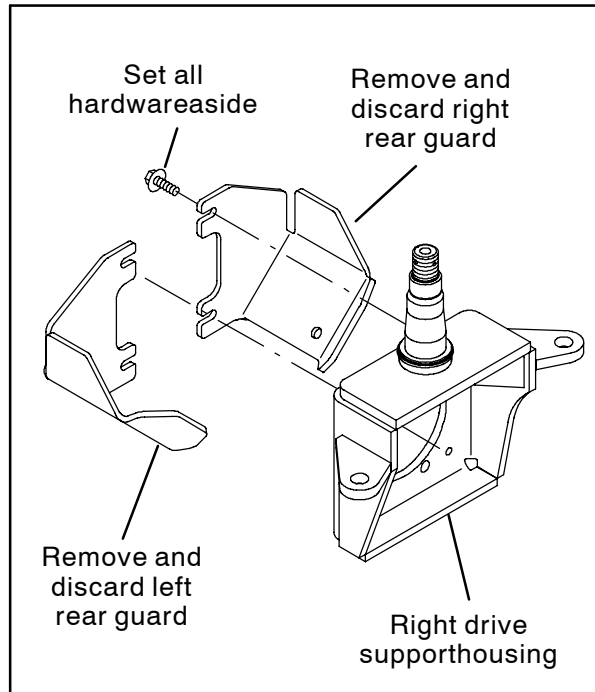

FIG. 1
1. Remove both existing rear wheel guards from the right drive support housing. Set the mounting hardware aside. Discard both wheel guards Refer to Fig. 1.